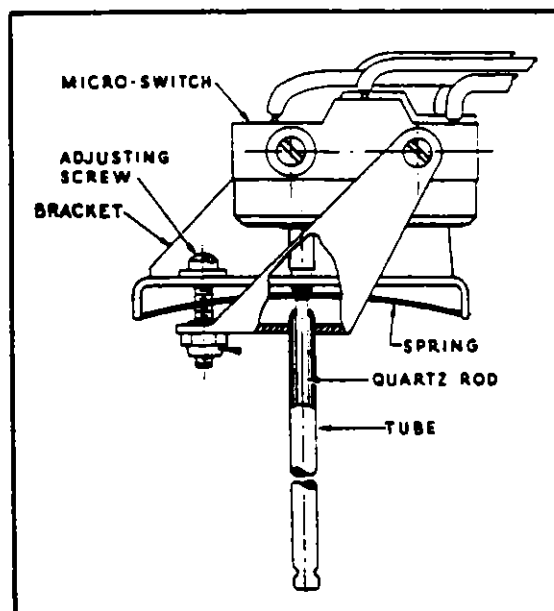

Figure 13-9. Flame Detector Switch (Cutaway View)
13-21. FLAME DETECTOR SWITCH. The purpose of the flame detector switch is to shut off the igniter and fuel pre-heater as soon as combustion has been established within the heater, and to provide a "purge" cycle after the heater is shut off. This switch consists of a hollow probe upon which is mounted a bracket and micro switch mechanism. The hollow probe contains a quartz rod which has a low rate of expansion when heated. (Refer to Figure 13-9.) The end of the quartz rod actuates the plunger of the micro switch. A leaf spring between the rod and plunger is provided to maintain a pressure through the rod against the end of the tube.
- b. Back off the adjusting screw (Refer to Figure 13-9.) until the switch clicks.